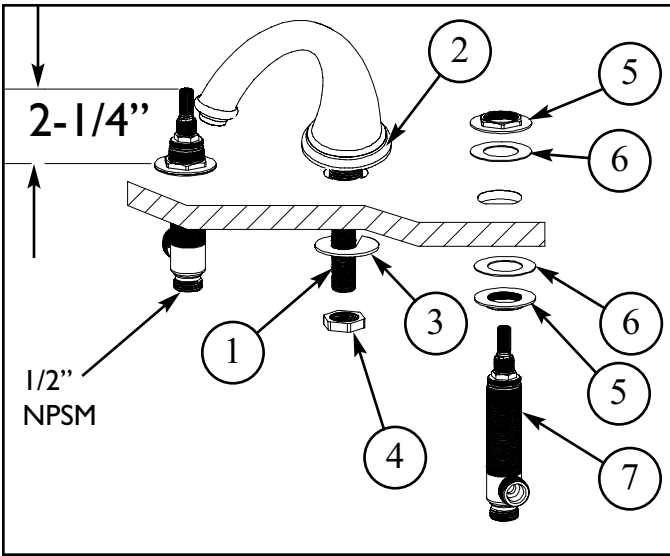

Figure 1
1. Place the spout SHANK (1) through base RING (2) and center hole of mounting surface. Secure spout into place with WASHER (3) and NUT (4), (align the WASHER (3) slot in direction of pop-up rod). See Figure 1.
2. Place flange NUT (5) and WASHER (6) on valve BODY (7). Insert BODY (7), (blue cold & red hot), through hole in the mounting surface. Adjust and secure with additional WASHER (6) and flange NUT (5) so that the top of valve is 2-1/4" above top of mounting surface. Before tightening down flange NUT (5), check HANDLE (15) alignment by placing onto Valve (7). Any adjustments for rotational alignment must be made to the valve BODY (7), not to the cartridge. See Figure 1.